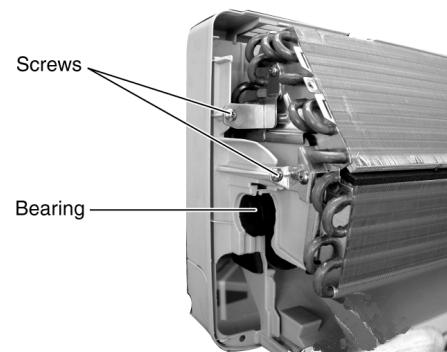

Fig. 8
5. Remove the Bearing. (Fig. 8)
6. Remove the screws at the left of the Evaporator. (Fig. 8)